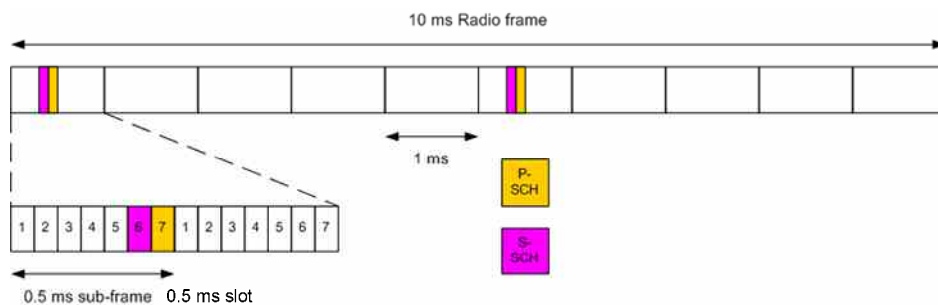

Fig. 7 P-SYNC and S-SYNC Structure
Besides the reference symbols, synchronization signals are therefore needed during cell search. E-UTRA uses a hierarchical cell search scheme similar to WCDMA. This means that the synchronization acquisition and the cell group identifier are obtained from different synchronization signals. Thus, a primary synchronization signal (P-SYNC) and a secondary synchronization signal (S-SYNC) are assigned a predefined structure. They are transmitted on the 72 center subcarriers (around the DC subcarrier) within the same predefined slots (twice per 10 ms) on different resource elements, see Fig. 7.
- They are transmitted as shown in Fig. 7 in slots 0 and 10, on the last 2 OFDM symbols of the slot.